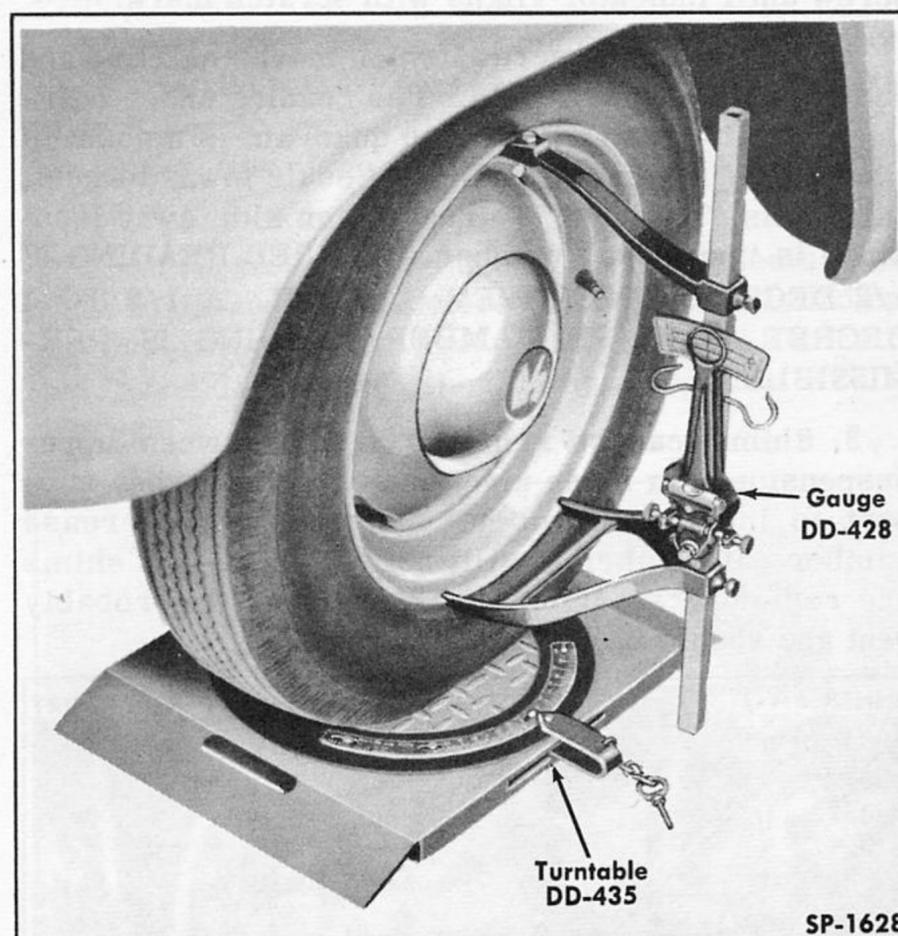

Fig. 168—Checking Front End Caster and Camber
2. Mount Universal Camber and Caster Gauge DD-428 on left front wheel, as shown in Fig. 168, with quadrant at a right angle to wheel and with gauge supported on edge of wheel rim. The hairline should be on "zero" with indicator aligned on scratch line.
1. With vehicle still in position on Front Wheel Turntables DD-435, turn wheels to straight ahead position and install turntable lock pins. Mount Universal Camber and Caster Gauge DD-428 on wheel as it was for checking caster (Fig. 168). Adjust secondary screw until indicator aligns with scratch mark.